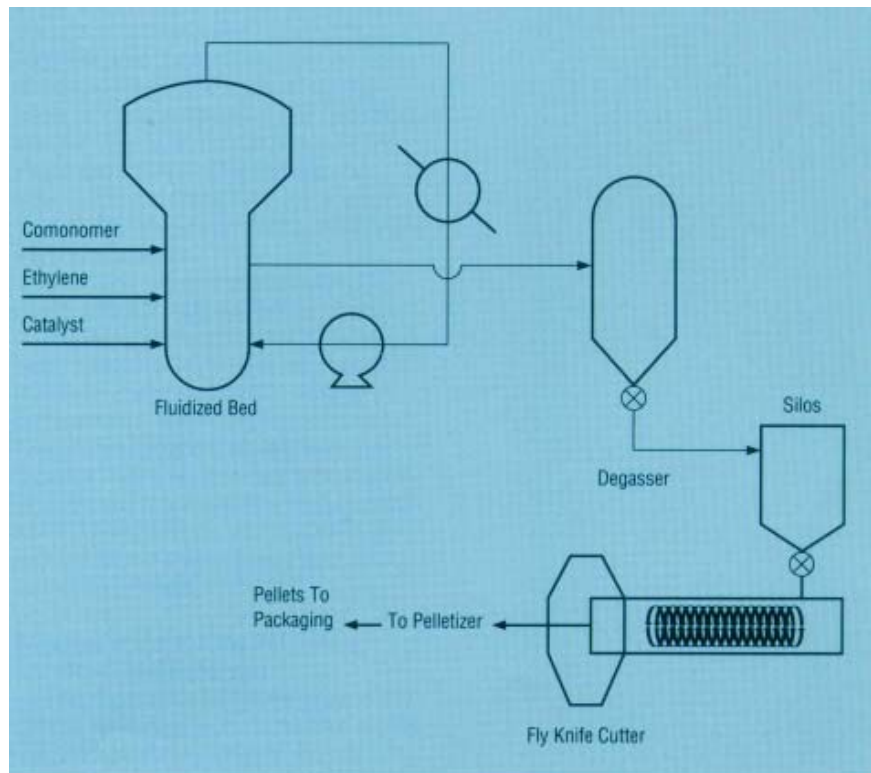

Figure 10. Process diagram for LLDPE production in a gas-phase reactor.
LyondellBasell uses the gas-phase (GP) process to produce LLDPE (**Figure 10**). The LLDPE process is quite different from the LDPE process, but similar to the HDPE process. The major